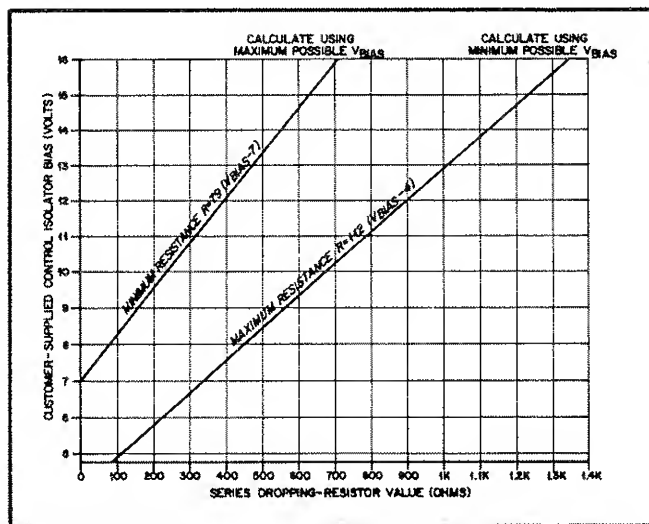

Figure A-6. Calculating Value of Series Dropping Resistor
*Although CONTROL ISOLATOR BIAS can be +4.75 V to +16 V, a supply voltage of more than 7 V may damage the relays. Therefore, if CONTROL ISOLATOR BIAS exceeds 7 V, it is necessary to use a resistor in series with each of the relay enable lines. Figure A-6 provides a graph and formulas for calculating the proper series resistance value based on the CONTROL ISOLATOR BIAS being used. Be certain to account for the resistor tolerance and CONTROL ISOLATOR BIAS power supply tolerance. The formulas and graph in Figure A-6 account for relay tolerance. Any driver gate voltage drop should be subtracted from the CONTROL ISOLATOR BIAS before using formulas and graph in Figure A-6.*